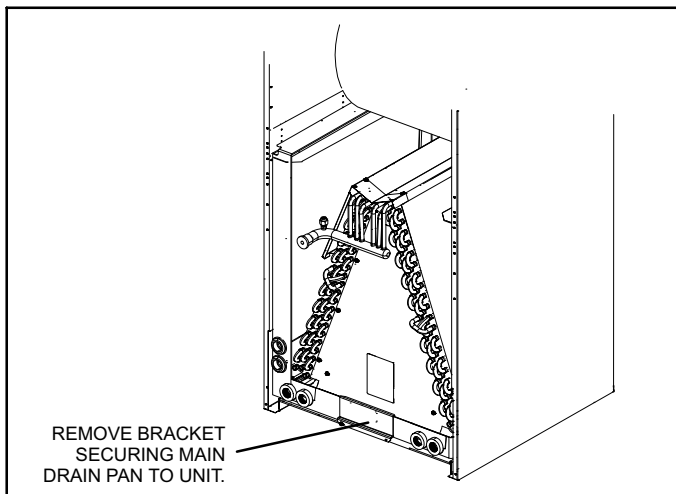

Figure 25. Remove Main Drain Pan Mounting Bracket (-018 through -036)
- Remove bracket(s) securing pan(s) to unit as illustrated in figures 25 and 26.